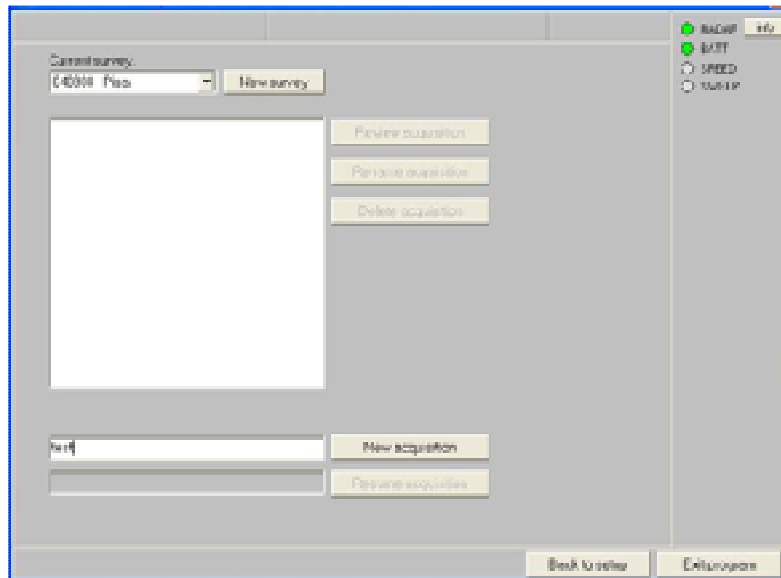

Fig. 4-21 – Acquisition Selection window
After the calibration phase, the acquisition procedure continues with the appearance of the following window shown in Fig. 4-21.
1. Pressing the  button in Fig. 4-21 opens the window shown in Fig. 4-22, in which you have to type the name of the survey in the top text box; any notes relating to the survey can be inserted in the lower text box.
2. Complete the survey selection phase by clicking the  button in the window shown in Fig. 4-22; this will return you to the window shown in Fig. 4-21. The chosen name and date of creation are automatically inserted into the current survey box  shown in Fig. 4-21.
4. At this point, type in the name of the new acquisition in the text box shown in Fig. 4-24, which is part of the window shown in Fig. 4-21. The name inserted in the example given in Fig. 4-24 is **Scan-01**.